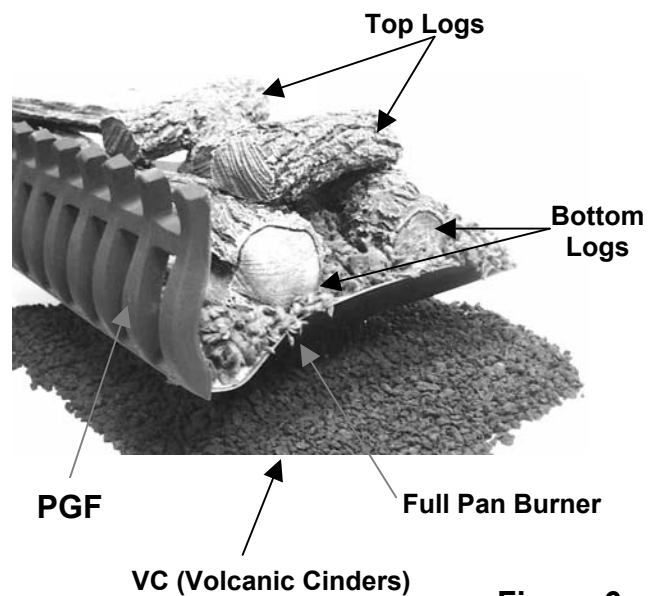

Figure 6
1. The two longest logs are the **bottom logs**. They should be placed directly on top of the ember bed. The bottom logs can either be positioned on their edge with the flat unfinished sides toward the middle of the pan, or with the flat unfinished side facing down in the sand. Allow 2 to 3 inches of space between the bottom logs. (Fig. 6)
2. The remaining logs are **top logs**. These logs are placed diagonally across the bottom logs and can be arranged to create the most realistic flame patterns. (See Figure 6.)
1. The black **volcanic cinders** are used to cover the fireplace floor, fittings and tubing around the burner system. Although not functional, the black cinders act as a picture frame to show off the glowing embers and yellow flame. (Fig.6)